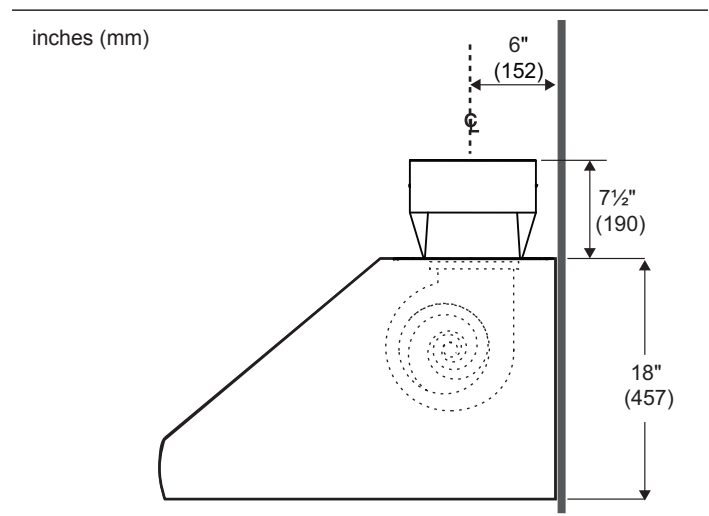
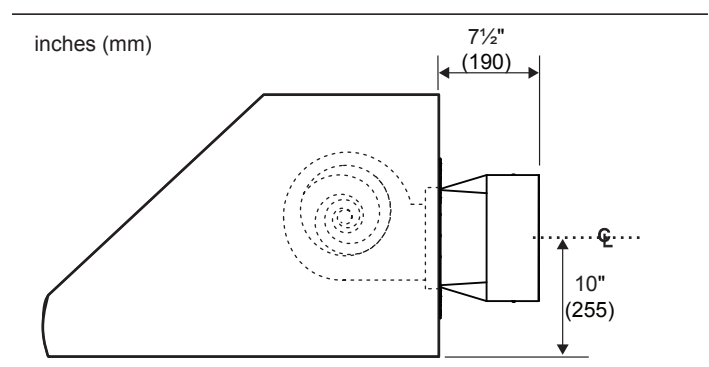

Figure 3: Transition Centerline for Vertical Discharge
Figure 4: Transition Centerline for Horizontal Discharge
The transition supplied with the hood connects to standard 10-inch round duct. *Figure 3* shows the transition connected for vertical discharge.
The transition supplied with the hood connects to standard 10-inch round duct. *Figure 4* shows the transition connected for horizontal discharge.
15. Before hanging hood, install transition per *Figure 3* or *Figure 4*. Fasten transition with (2) 3/8" sheet metal screws (supplied) and aluminum tape per all applicable codes.